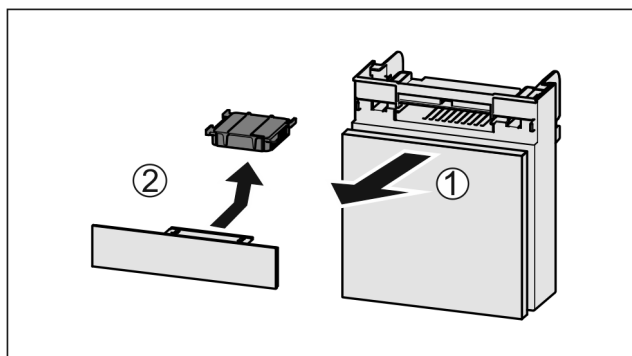

Fig. 168
- Pull out the compartment Fig. 168 (1).
- Remove the carbon filter Fig. 168 (2).